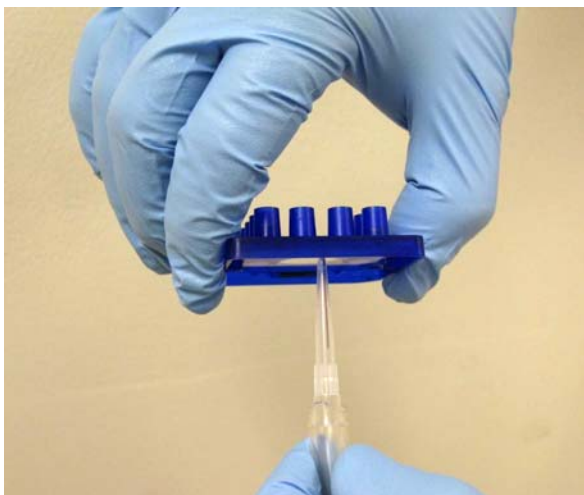

Figure 18. Removing an air bubble or clog by suctioning the sipper with a vacuum line.
- If air bubbles are not dislodged after a reprime, apply a vacuum to the sipper. Perform this by filling all active wells with 100 μ L of Chip Storage Buffer. Then suction the sipper with a vacuum line as shown in Figure 18 until droplets of fluid flow out from the sipper. When suctioning the sipper, be careful not to bend or break the sipper. To facilitate this, cut the end of the pipette tip attached to the vacuum line to widen the mouth.